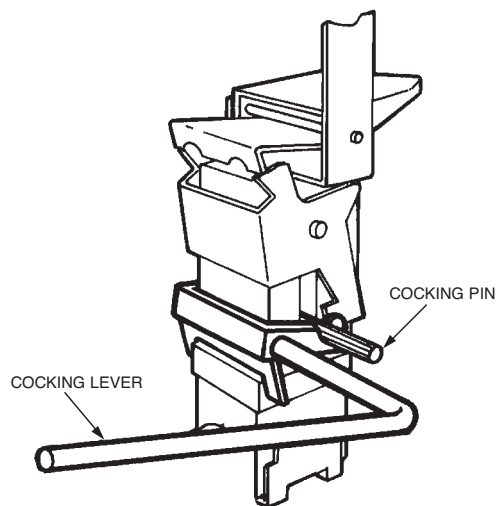

FIGURE 50
- 10. Insert cocking lever (Part No. 14995) on left side of regulated release mechanism with the movable flange resting securely against the corner of cartridge receiver and spring housing, with the notched lever portion engaging the cocking pin on both sides of the regulated release. See Figure 50.